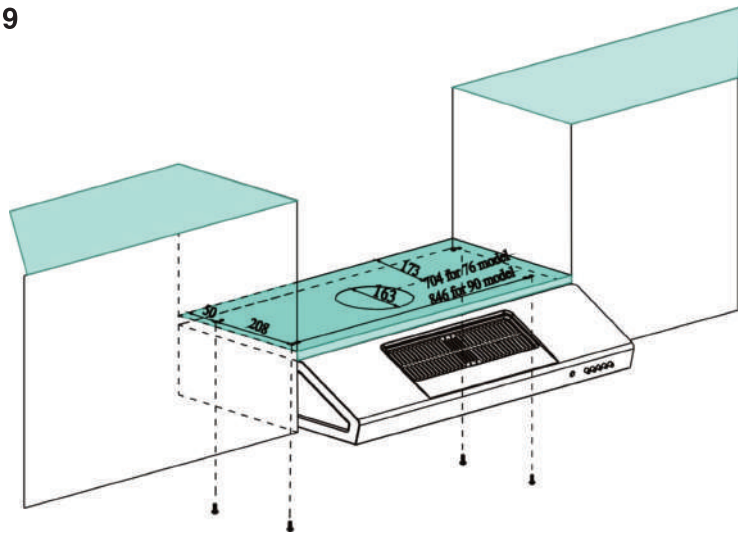

Fig 13
-To access or change the incandescent lamps, As Fig.13 indicated, first of all kick off Catch C by pulling Catch B and screw-driver. Draw out the light cover C according to the direction of arrow(Fig.13) and remove the bulb itself.